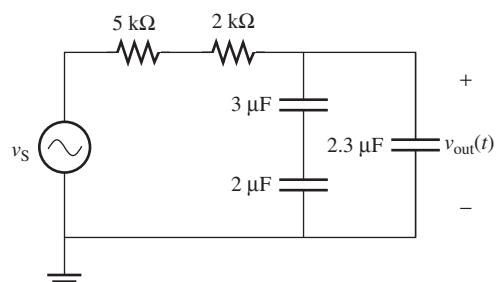

FIGURE P7.3 Circuit for Problem 7.3.
- 7.3 (A) Find the transfer function for the filter of Figure P7.3.